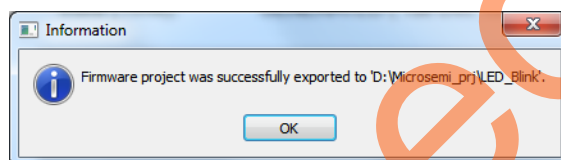

Figure 22 • Firmware Export Successful
5. Click **OK**, a notification window appears saying **Firmware project was successfully exported to <drive:\>Microsemi_prj\LED_Blink**, as shown in Figure 22.